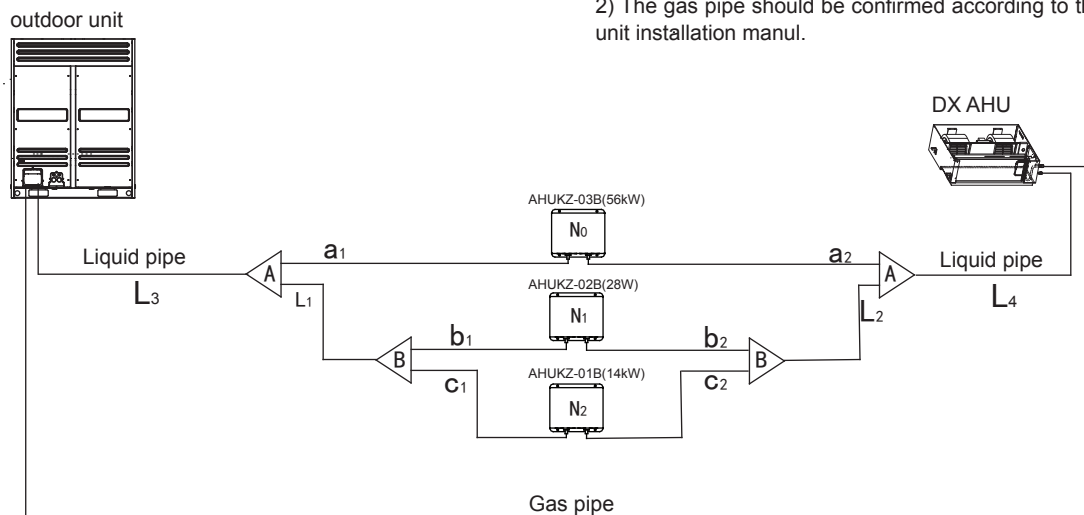

Fig. 6-1
Pipe name	Code(refer to Fig. 6-1)
e.x.1: Refer to Fig. 6-1, the capacity of downstream controller box to L₄ is $560+280+140=980$, the pipe is Φ19.1.